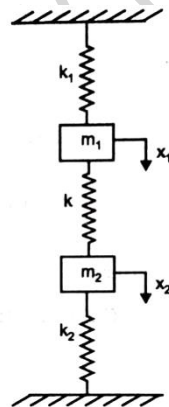

Figure 5a
- 5 a) Determine the natural frequencies of the system shown in figure 5a. Given 10